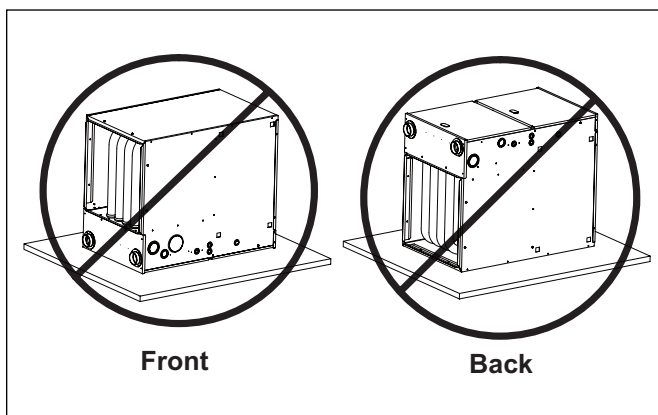

Figure 2
- ▶ Do not install the furnace on its front or back. See Figure 2.